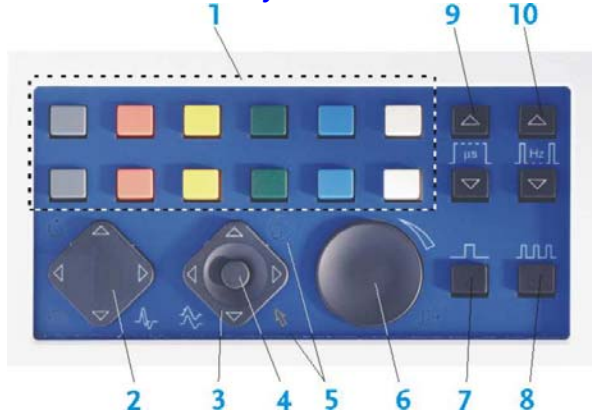

Figure 8 Dedicated Keyboard
If multiple traces are present in the Trace Window, you may select another trace by the up/down arrows on the move/position button on the dedicated keyboard, see Figure 8 below.
- To change the sensitivity use the up/down arrows of the sweep speed/sensitivity buttons on the dedicated keyboard see Figure 8, or use the up, or down buttons on the PC keyboard.
board see Figure 8 and the Trace Window Function Buttons below.
- By clicking the information box in the Trace Window thus providing further parameter buttons at the bottom of the screen, you will find the Clip Sound among these buttons, see Figure 8 below.
- The *Trigger Mode* can be activated by way of the mouse in the Trace Window: by clicking on the second half of the dotted line, while at the same time dragging in the mouse from the left side of the window frame. It may also be activated by way of pushing the Wheel Mode button, see Figure 8.
- Deactivate the Trigger Mode by way of using the mouse, dragging the horizontal marker out the window. You may also deactivate the Trigger Mode by pushing the Wheel Mode button, see Figure 8.
The level can also be set by using the Intensity Wheel on the dedicated keyboard, see Figure 8.